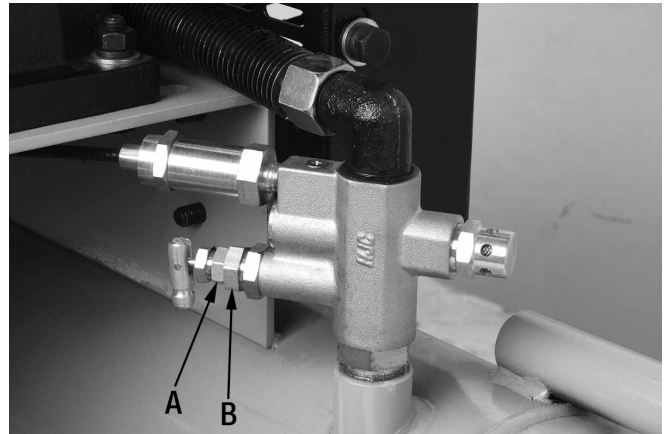

FIGURE 11
This compressor comes with a factory operating pressure setting of 95-125 PSI (cut-in and cut-out), the cut-out pressure setting may be increased up to 150 PSI by making an adjustment to the load master valve assembly Fig.11.
To increase the cut-out pressure setting, using a wrench, loosen the load master valve (A) Fig.11 by turning it counterclockwise. Then turn the load master valve fitting (B) clockwise. Make small adjustments at first and test the new setting until the desired cut-out pressure setting is obtained. Retighten the load master valve.